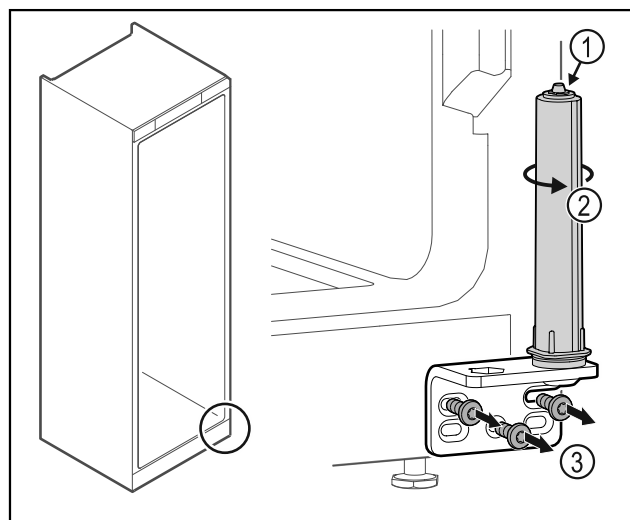

Fig. 14
- Do not disassemble the door closing system Fig. 14 (1).
- Turn the closing system Fig. 14 (2) until it clicks.
- Unscrew the hinge Fig. 14 (3).